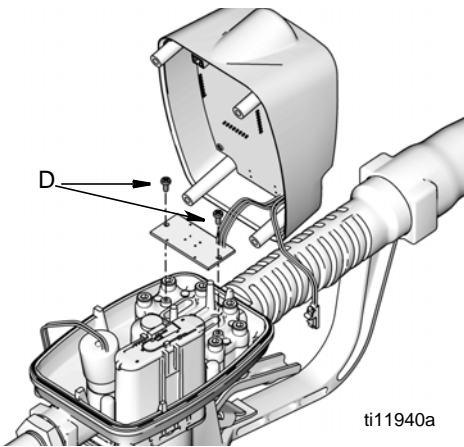

FIG. 7
- Use 2 screws (D) to secure reed switch to meter housing (FIG. 7). Tighten screws until they bottom out on the housing.